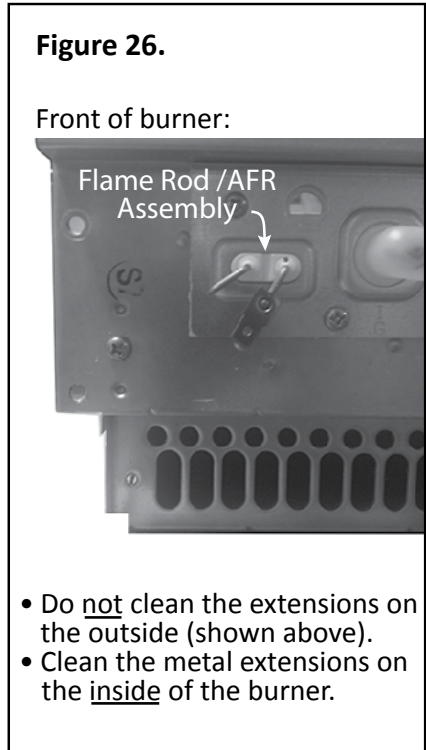

Figure 26.
5. Clean the flame sensor and air/fuel ratio rod as described below. (See Figure 26.)